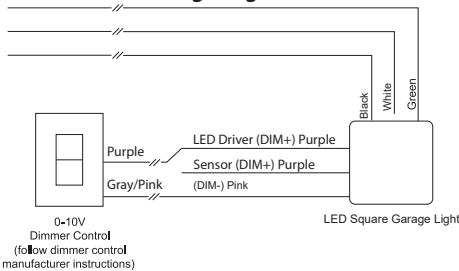

Figure 5
3. Connect the wires as per wiring diagram (Figure 5) and make connections as shown in Figure 8.